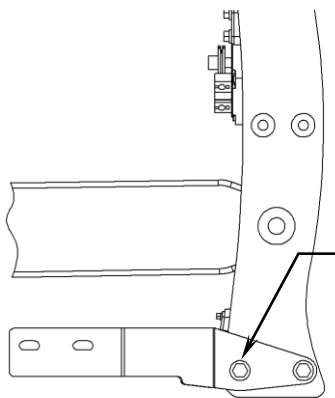

FIGURE 3
3. Install new exhaust-mounting bracket using the stock M10 bolts; tighten to factory specifications, Figure 3.